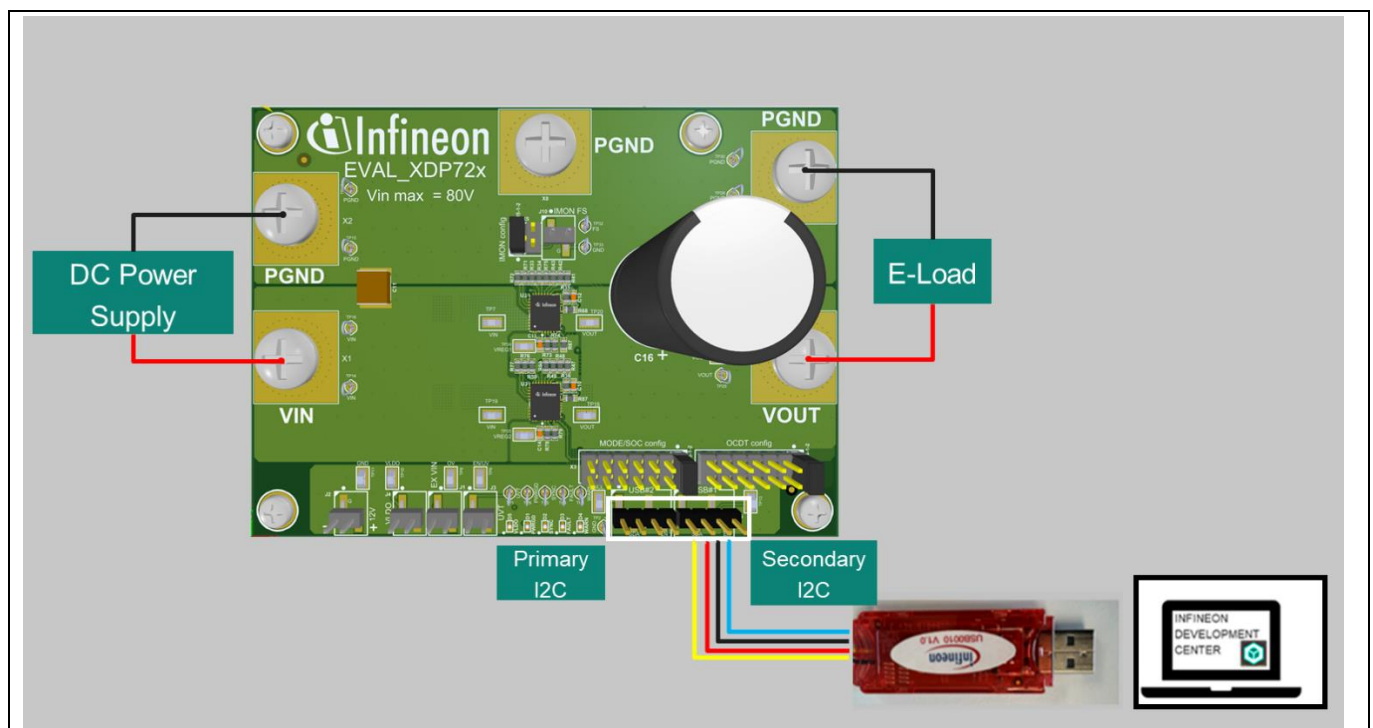

Figure 13 XDP72x-001 Evaluation Board and dongle setup
1. Connect the USB0010 dongle to the XDP72x-001 Evaluation Board as shown in Figure 13